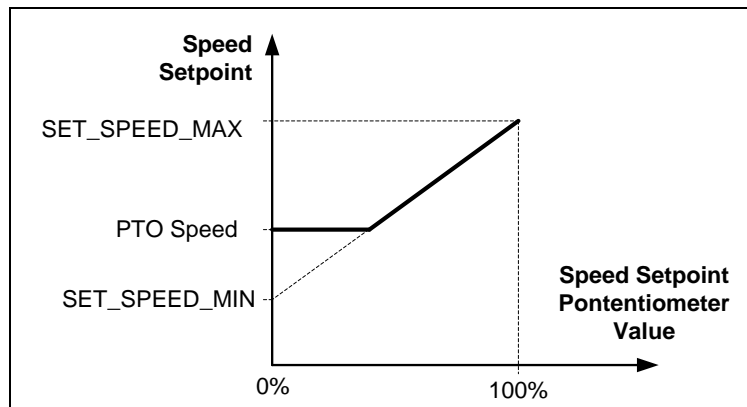

Figure 4-11. PTO Operation In Drive-by-Wire Mode (PTO Input Active)
- PTO speed setpoint operation may be overridden by pedal setpoint if the latter is higher. As a result, PTO speed will be treated as a minimum speed setpoint. See **Figure 4-11** for resulting desired speed curve. This operation may be disabled in configuration.